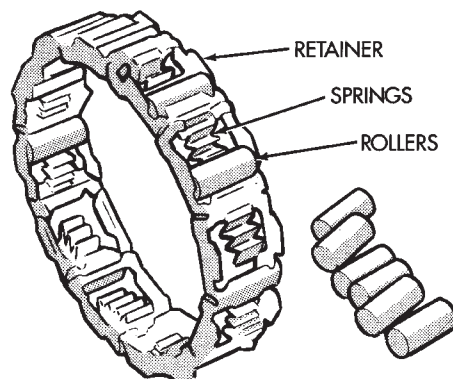

Fig. 33 Installing Overrunning Clutch Rollers In Retainer
(1) Install clutch rollers in spring retainer (Fig. 33). Be sure springs are seated squarely against rollers.